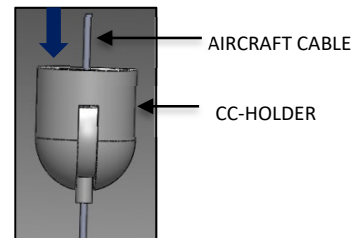

FIG. 15 – SS ROPE CABLE
- Locate the AIRCRAFT CABLE mounted to the LINER fixture. Feed the AIRCRAFT CABLE through the CC-HOLDER. Adjust the AIRCRAFT CABLE to the desired length and place it aside as shown in FIG. 15.